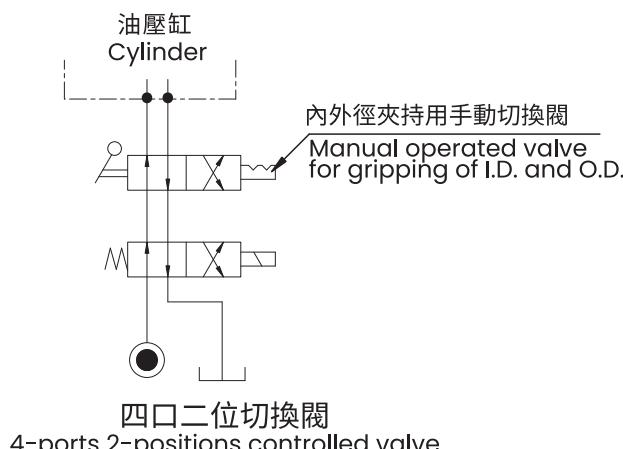

Fig.10
油壓迴路的設計是基於操作簡便和安全的原則，提供安全迴路，以防止停電時所產生的危險。(Fig.10)
Design the hydraulic operation circuit so that it is easily operated and mis-operation does not occur. Provide the fail-safe circuiting so that the accident does not occur even if the power source is interrupted. (Fig.10)
- 如採 4 口 2 位電磁閥設計油壓缸之切換作用，迴路則須設計成在脫磁狀態時，工件仍能被夾持。(Fig.10)
- 防止由內徑夾持切換至外徑夾持之錯誤操作，須提供一個 4 口 2 位電磁閥來保持固定其位置。(Fig.10)
- In order to make the change-over of cylinder by use of the 4-port 2-position solenoid valve, the hydraulic circuit should be so designed as to grip the work when solenoid controlled is demagnetized. (Fig.10)
- Provide the inner dia./outer dia. gripping change valve in order to prevent mis-operation when changing from the inner dia. gripping to outer dia. When the solenoid valve is used for this chang valve, use the 4-port 2-position valve with position stop. The designation circuit is to be maintained.(Fig.10)